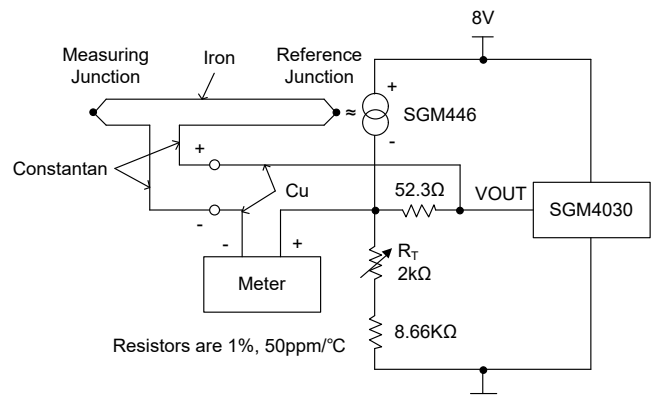

Figure 12. Compensating a Type-J Thermocouple
Figure 12 can be used to compensate the cold junction from the J-Type thermocouple. The following circuit is used as a reference for the thermocouple (TC) at a temperature range from +15°C to +35°C. The resistor R_T can calibrate the circuit for the meter of the circuit with known reference temperature. For the Celsius temperature from +15°C to +35°C, the accuracy can be compensated within the range of ±2°C if using the specified components with TCs. And different resistor values can fit different types of TCs. If the users attempt to decrease the error, the resistors and voltage reference in TCs should be taken into consideration.